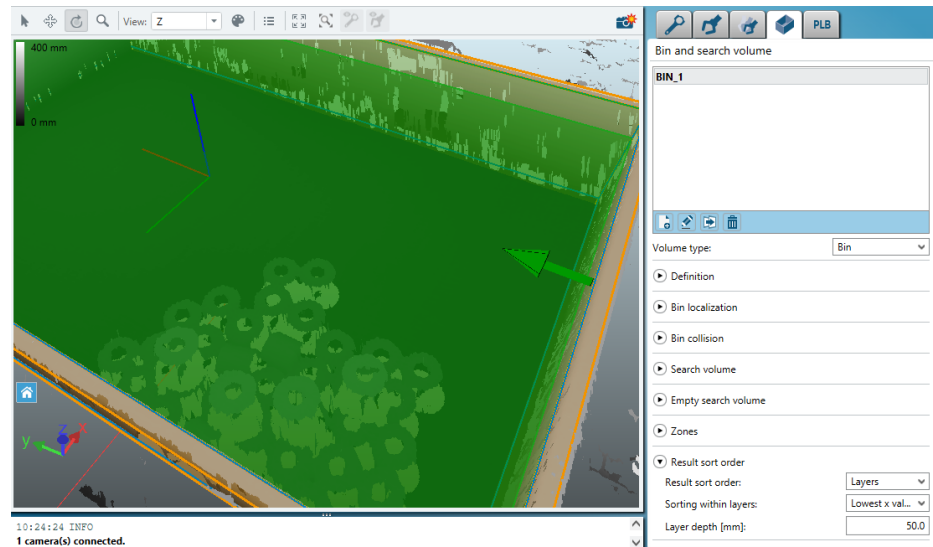

Figure 74: Configuring layers
- ✓ The defined layer is visualized as shown in figure 74.